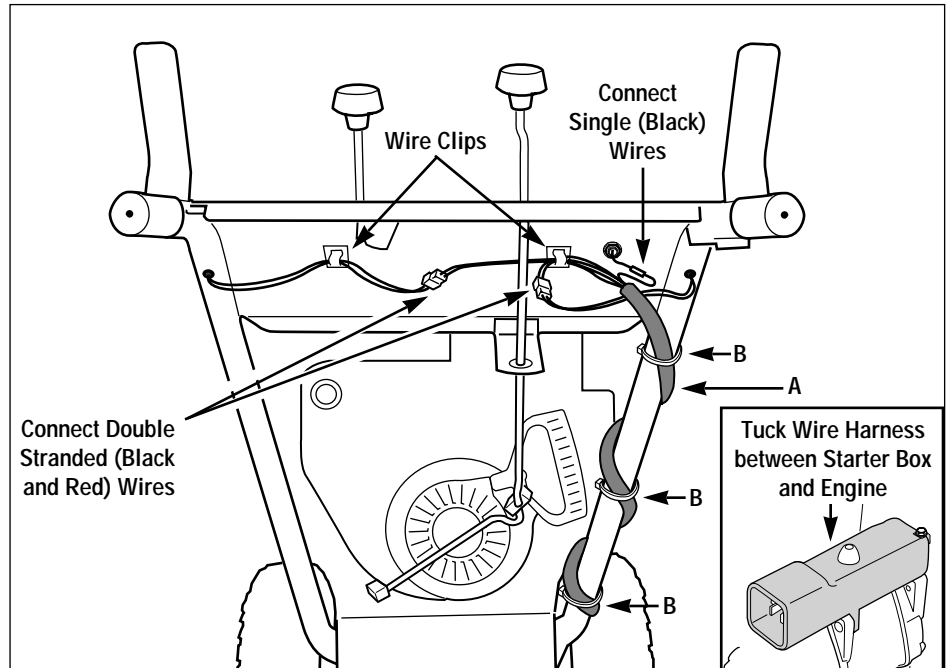

Figure 2-9
1. Gently unwind the electrical wiring harness (A, Figure 2-9) from its shipping position and route it back toward the right-side handlebar.
2. Without over-stretching the wiring harness, loop it up and around the handlebar as shown in Figure 2-9.
5. Remove excess slack from the wiring harness and insert the wires into the two wire clips shown in Figure 2-9. On the right-side of the engine, tuck the wire harness in between the starter box and the side of the engine (see inset, Figure 2-9).
6. Using the plastic wire ties (B, Figure 2-9) provided, loosely secure the wiring harness to the handlebar.